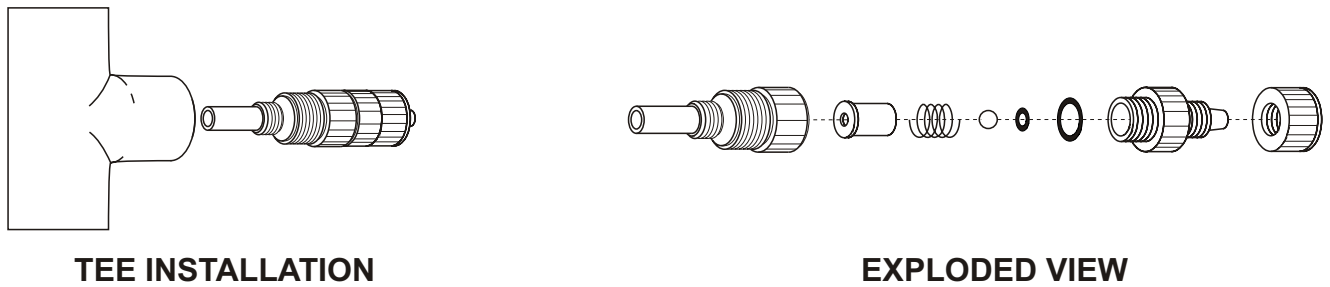

FIG. 4.9 TEE INSTALLATION AND EXPLODED VIEW
- ✓ Periodically clean the suction strainer. Fig.4.9